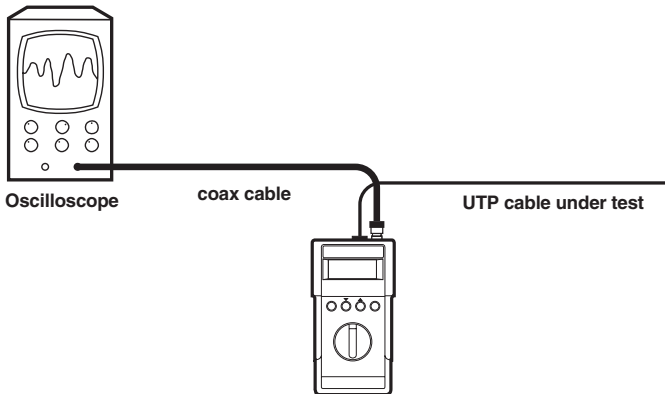

Fig. 6-1. Testing UTP Cables.
- Refer to the Fig. 6-1. Using the supplied BNC patch cable, connect the Scanner to the oscilloscope input. The oscilloscope input impedance must be 1 megaohm or greater.